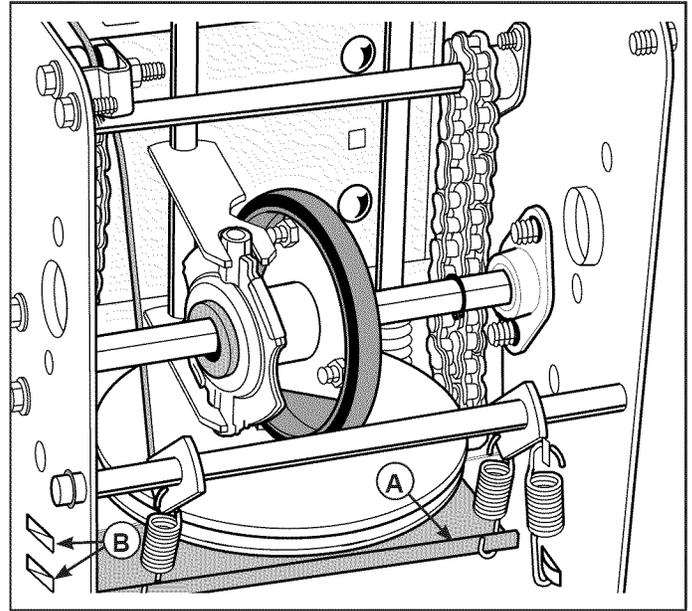

Figure 48. Traction Belt Change
4. Remove the swing plate axle rod (I) to allow the swing plate (A, Figure 48) to pivot forward.
8. Make sure the traction drive idler pulley (L) is properly aligned with the traction drive belt (A).
9. Attach the traction drive spring (E).
10. Install the swing plate axle rod (I) and secure with the E-ring (J) removed earlier.
11. The bottom of the swing plate (A, Figure 48) must be positioned between the alignment tabs (B). Make sure the swing plate is properly secured.